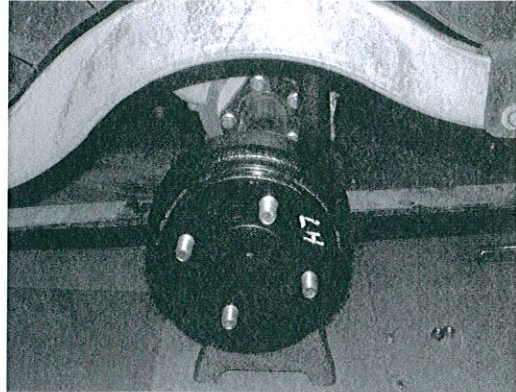

Fig. 1 Original drum brake
1. Remove wheel and old brake drum. (see Fig. 1)